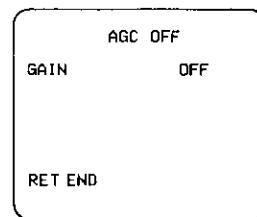

Fig. 32
- AGC ON is blinking in the Setup Menu. Change the ON to OFF by pressing the Left Button (WHT BAL) or the Right Button (GAIN UP). Then press the Setup Mode Button (SET UP) to display AGC OFF menu as shown in Fig. 32.